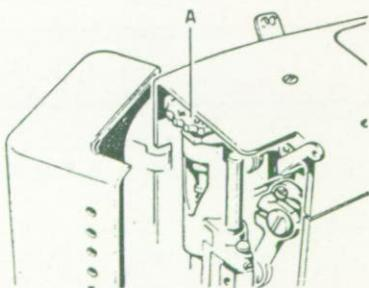

Fig. 11
- Turn knob « A » encased in the machine (Fig. 11); the number visible towards face plate indicates pressure value.